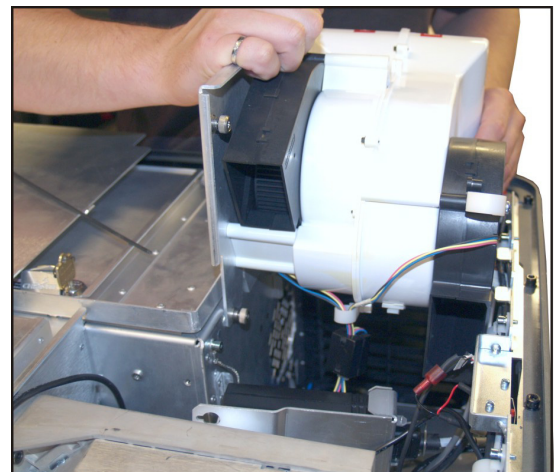

Figure 5-21 Remove Lamp Blower
8. Lift the assembly out of the projector housing (**Figure 5-21**).